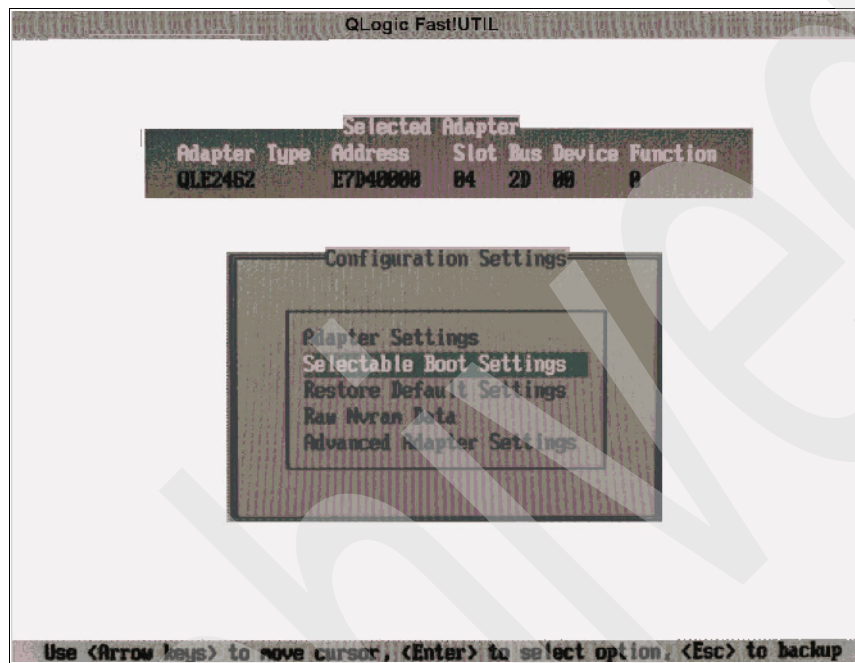

Figure 26-22 Selectable Boot Settings menu option
1. Select the first FC HBA port and then **Configuration Settings** → **Selectable Boot Settings**. This is shown in Figure 26-22.